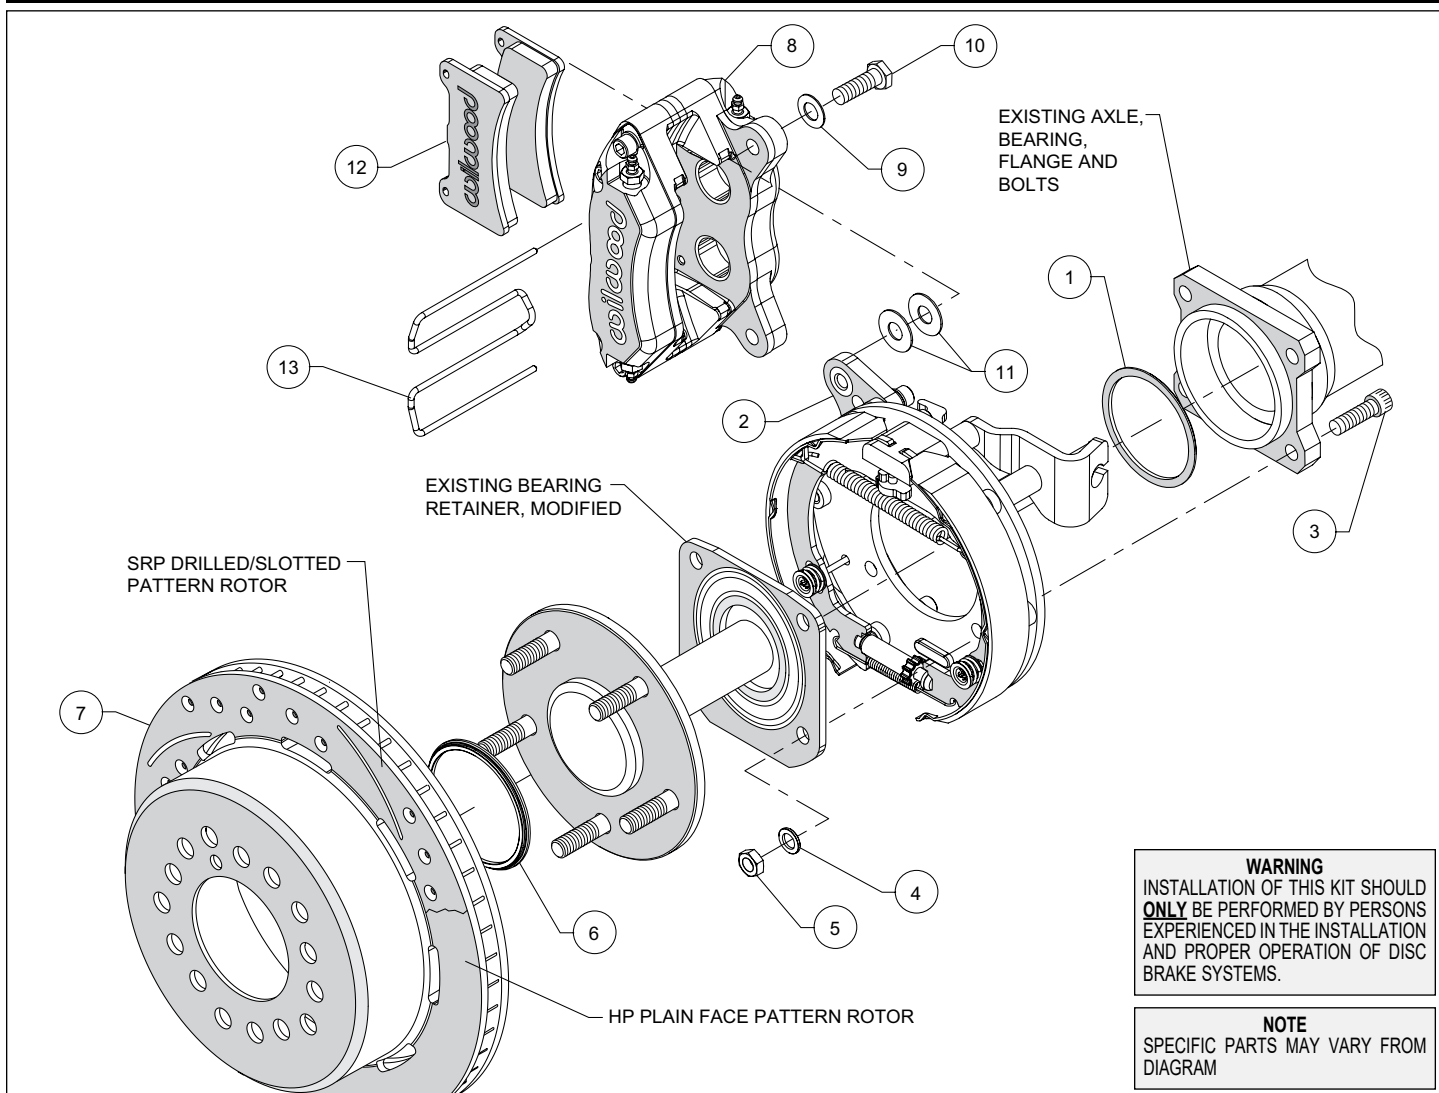
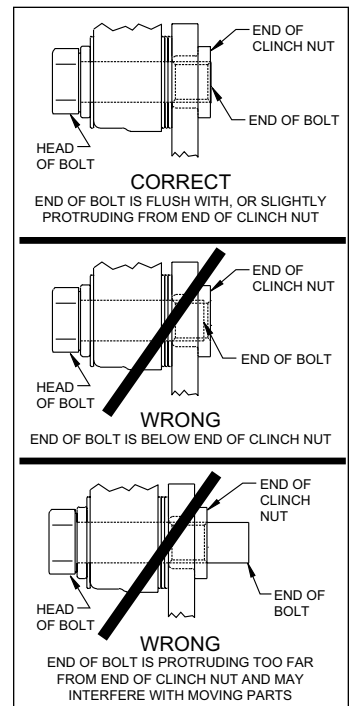

Figure 1. Typical Installation Configuration
Figure 5. Clinch Nut Engagement Diagram
NOTE: Numbers in parenthesis refer to the parts list and Figure 1 on the preceding pages.
CAUTION: All mounting bolts must fully engage clinch nuts. Be sure to check that all bolts are either flush or protruding through flanged side of clinch nut after shimming, Figure 5.
- With the bearing retainer in place, slide the caliper mounting bracket assembly (2) onto the axle as shown in Figure 1 and Photo 1. Install axle shim (1) over axle shaft with bearing chamfer facing toward the axle housing, as shown in Photo 2.
- Slide the axle and parking brake assembly into the axle housing ensuring that the backing plate is flush with the axle housing flange and the bearing retainer is flush with the backing plate. Secure OEM bearing retainer using bolts (3), washers (4) and lock nuts (5), as shown in Figure 1. Lock nuts (5) and washers (4) that retain the caliper mounting bracket assembly (2) should be on the wheel side of the bracket, Figure 1. Torque nuts to 40 ft-lbs.
- Slide the rotor registration adapter (6) onto the axle register on the axle flange with the smaller O.D. facing toward the rotor/hat (7), Photo 3. Align the correct hole pattern in the rotor/hat with the stud pattern on the axle flange and slide into place, Figure 1 and Photo 4. **NOTE: The rotor/hat must fit flush against the axle flange or excessive rotor run out may result.** Install three lug nuts (finger tight) to keep the rotor/hat assembly in place while continuing with the installation. **NOTE: Some OEM and after market axles come with stud sizes larger than 0.50" diameter. Verify stud size and have a qualified machine shop drill the bolt circle of the hat/rotor to the correct stud size, if necessary.**
- NOTE: Please reference the caution statement at the beginning of the assembly instructions.** Mount the caliper (8) onto the caliper mounting bracket (2) using bolts (10) and washers (9), as shown in Figure 1. Initially place two .035" thick shims (11) on each bolt between the caliper and the bracket, Photo 5. Temporarily tighten the mounting bolts and view the rotor (7) through the top opening of the caliper. The rotor should be centered in the caliper, Photo 6. If not, adjust by adding or subtracting shims between the bracket and the caliper. Always use the same amount of shims on each of the two mounting bolts. **NOTE: The end of each bolt must be flush with or slightly protruding from the head of the clinch nut, as shown in Figure 5.** If necessary place spare shims between washer (9) and caliper mounting ear to achieve the proper clinch nut engagement. Once the caliper alignment and clinch nut engagement are correct, remove the bolts one at a time, apply red *Loctite*® 271 to bolt threads, and torque to 40 ft-lb.
- Install the disc brake pads (12) into the caliper, with the friction material facing the rotor (7), and secure in place using pad clip retainer (13), Photo 7.
- NOTE: Clevis and cable kits which attach to the parking brake assembly are not included in the Wilwood parking brake kit.** Wilwood offers a custom parking brake cable kit, P/N 330-11985 for the Corvette, and P/N 330-11986 for the Impala which can be ordered separately from your local Wilwood dealer or by calling Wilwood customer service at (805) 388-1188.
- Before final installation of the wheel, install three lug nuts, remove the rubber grommet in the bracket kit assembly (2) and adjust the parking brake shoes outward (using a drum shoe adjustment tool available at your local auto parts store) while spinning the rotor/hat (7) until a slight drag is felt against the hat/drum. Replace the rubber grommet when finished.